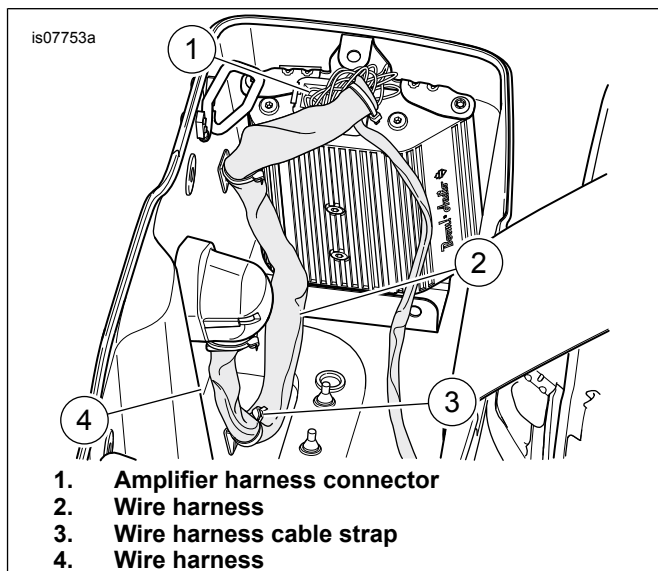

Figure 9. Inner Harness Routing
15. See Figure 9. Plug in connector [149] of the saddlebag harness to the top of the amplifier. Route the saddlebag side harness inside the left saddlebag. Clean the inside bottom and side surfaces of the saddlebag along the harness path with a 50-50 mixture of isopropyl alcohol and distilled water. Secure with cable straps and bases as shown.